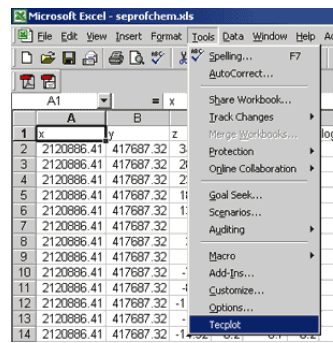

Figure 31-18. Accessing the Excel Loader macro via Excel's menu bar.
1. Load your Excel data using the new Excel macro. (Accessing this dialog is shown in Figure 31-18.) Make sure you have a blank row separating the zones in Excel.